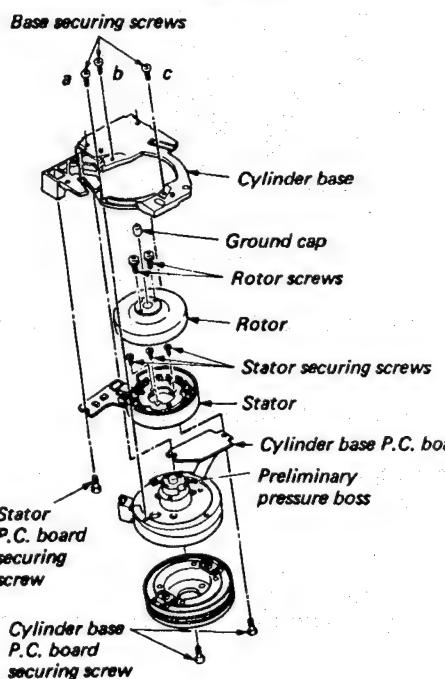

Fig. 1-3-14 Cylinder motor replacement
Mount a new rotor, matching the phase decision holes of rotor and preliminary pressure boss. (Fig. 1-3-14, 15)
3. Remove three base securing screws and remove the cylinder base. (Fig. 1-3-14)
4. Remove the rotor screws and the rotor. (Fig. 1-3-14)
(Fig. 1-3-14)